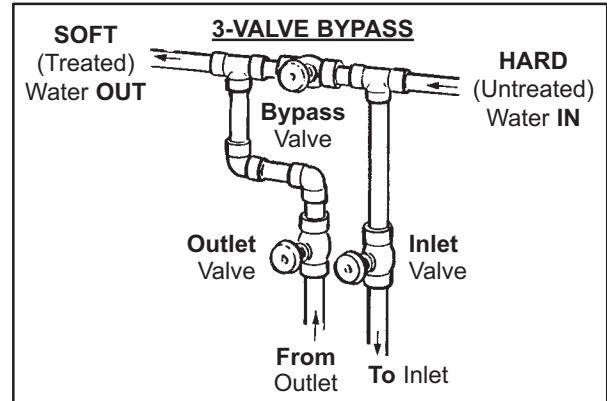

FIG. 6
- For inlet and outlet pipes to the conditioner, use copper, CPVC plastic, or threaded pipe and fittings. Avoid joining copper and galvanized together as corrosion will occur rapidly. The valve inlet and outlet connections are 1" male pipe thread. Optional fittings available are shown in Figure 6.